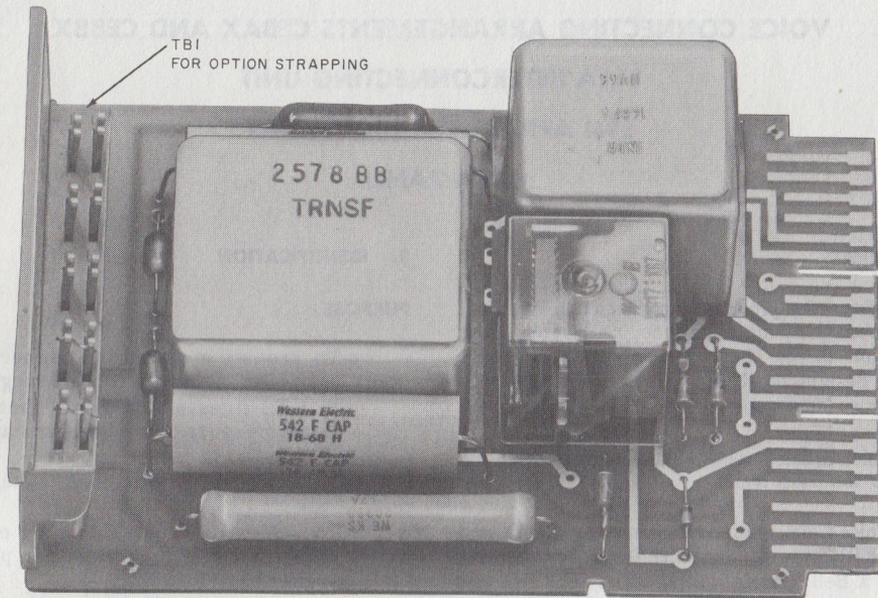

Fig. 1—111A Interconnecting Unit
- Unit, Interconnecting, 111A (Fig. 1) formerly designated 432A KTU (one per voice connecting arrangement).